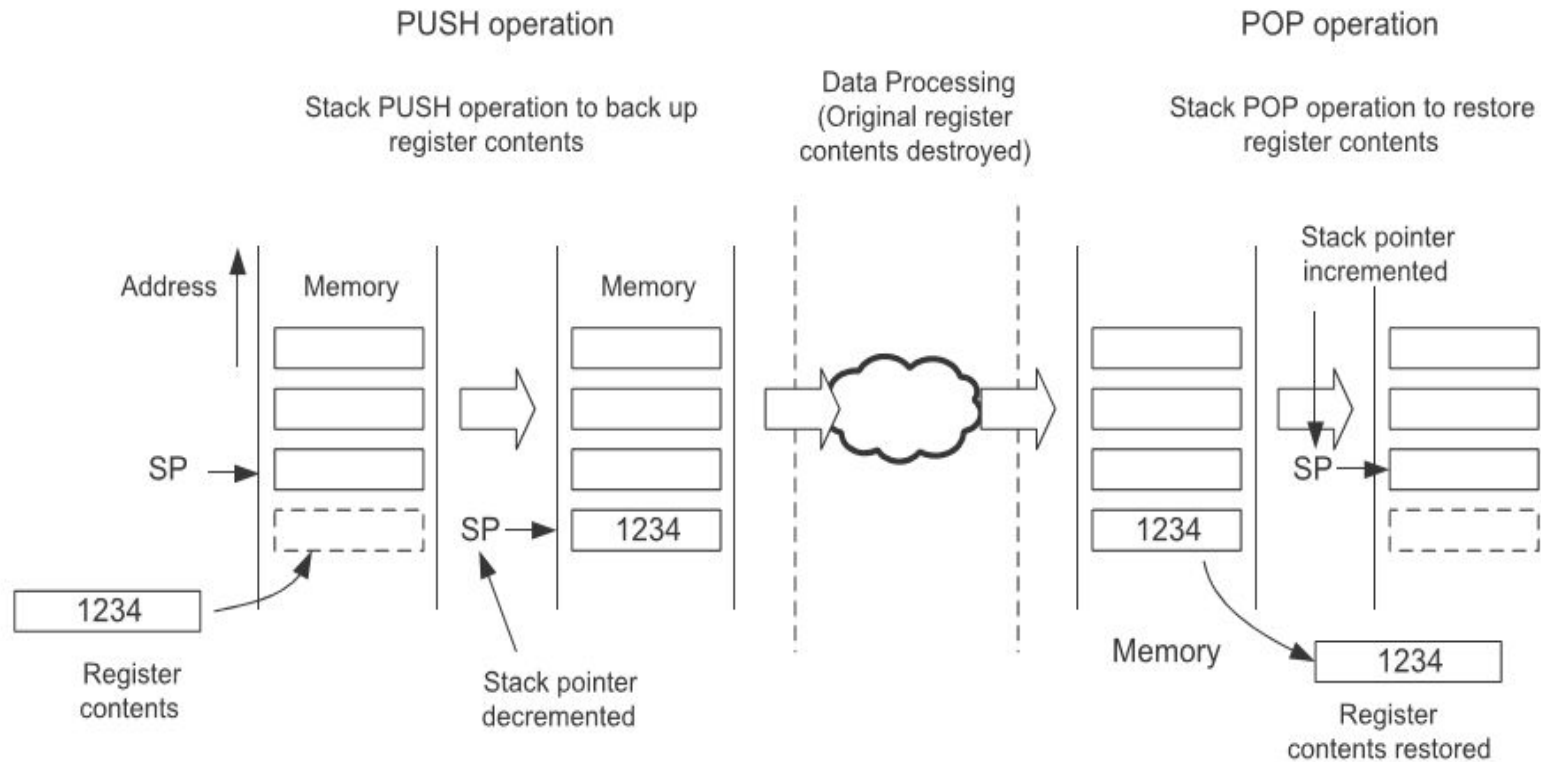

Figure 3.9:
- stack pointer always points to the last filled data in the stack memory, and the stack pointer decrements for each new data store (PUSH) (Figure 3.9).